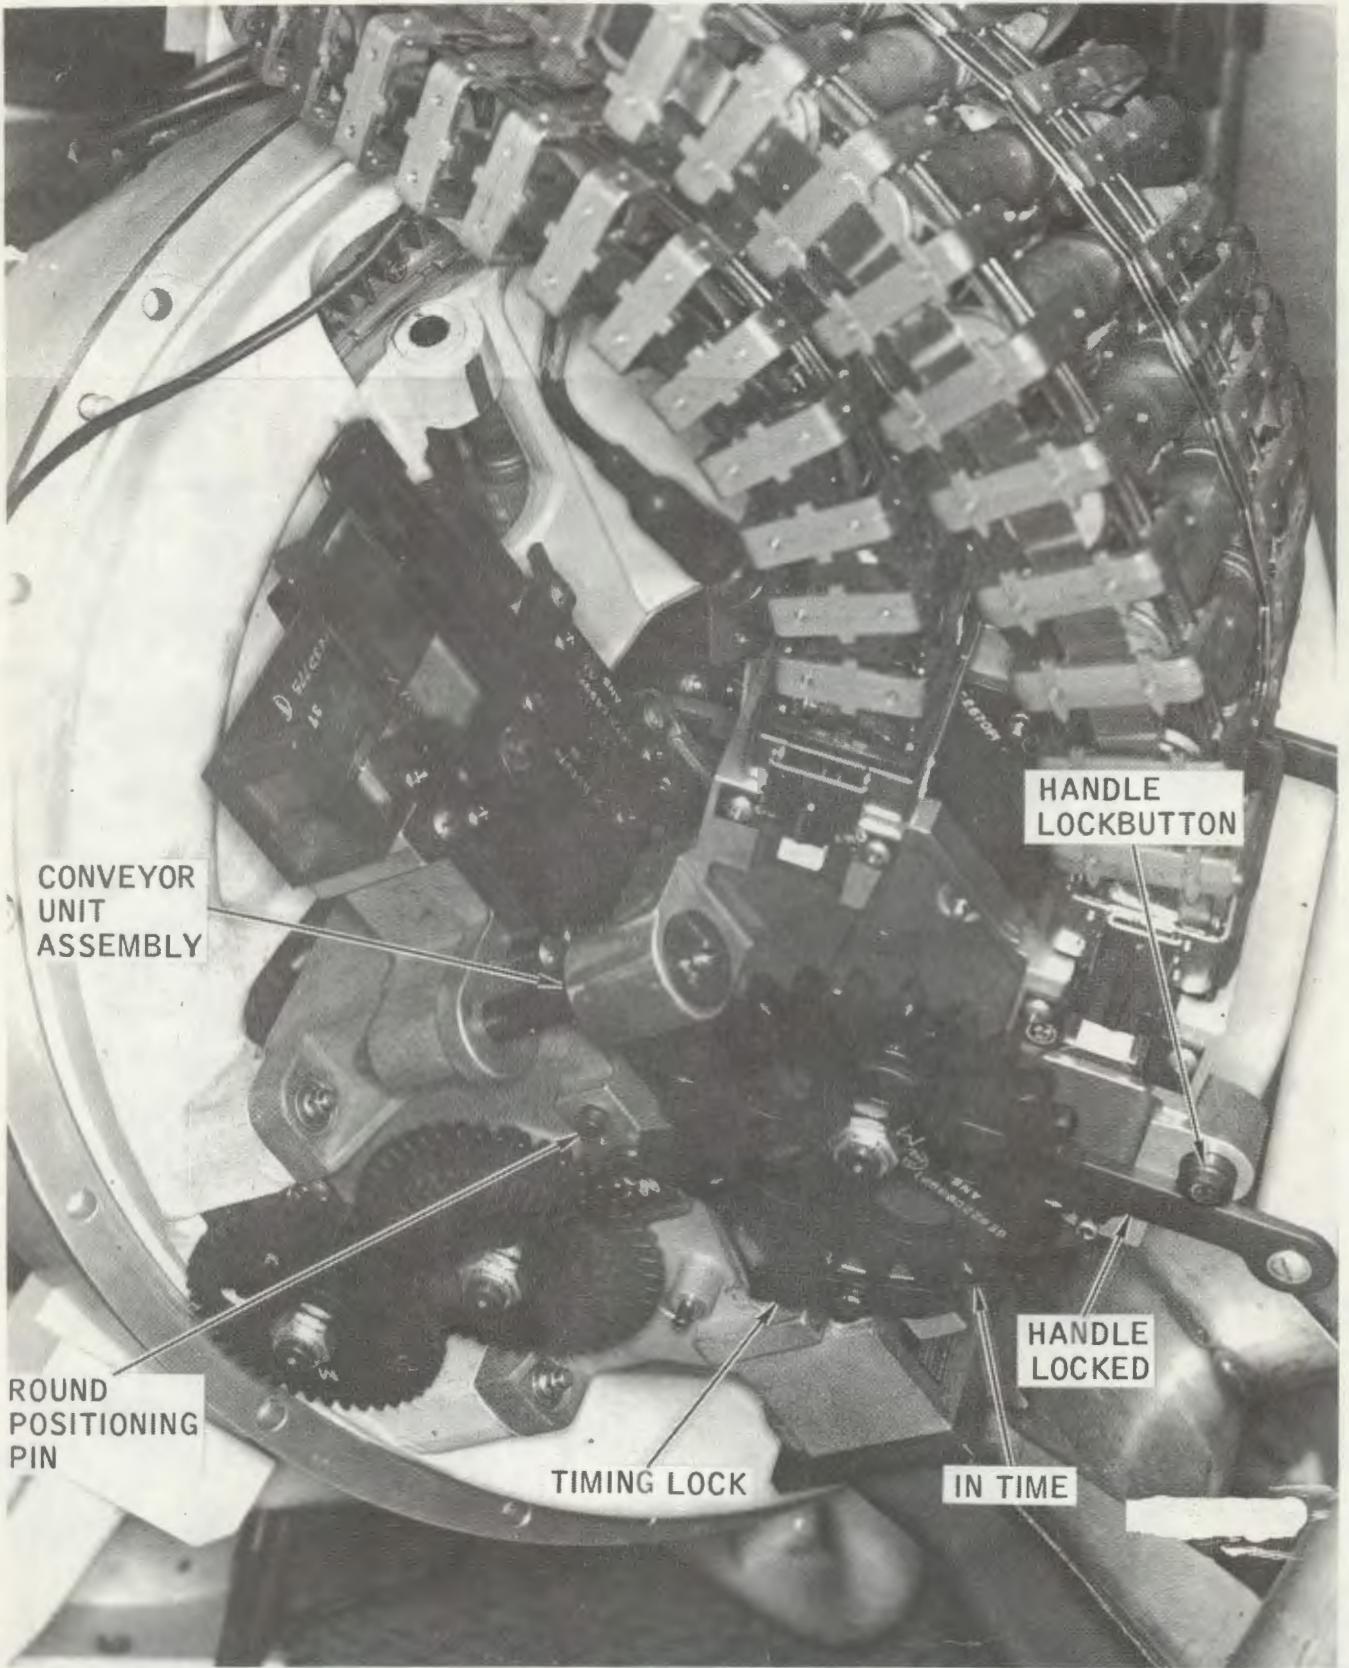

Figure 3-15. Conveyor unit assembly.
f. Conveyor Unit Assembly (fig. 3-15).
(1) *Round-positioning pin (fig. 3-15)*. Positions first round in exit unit.